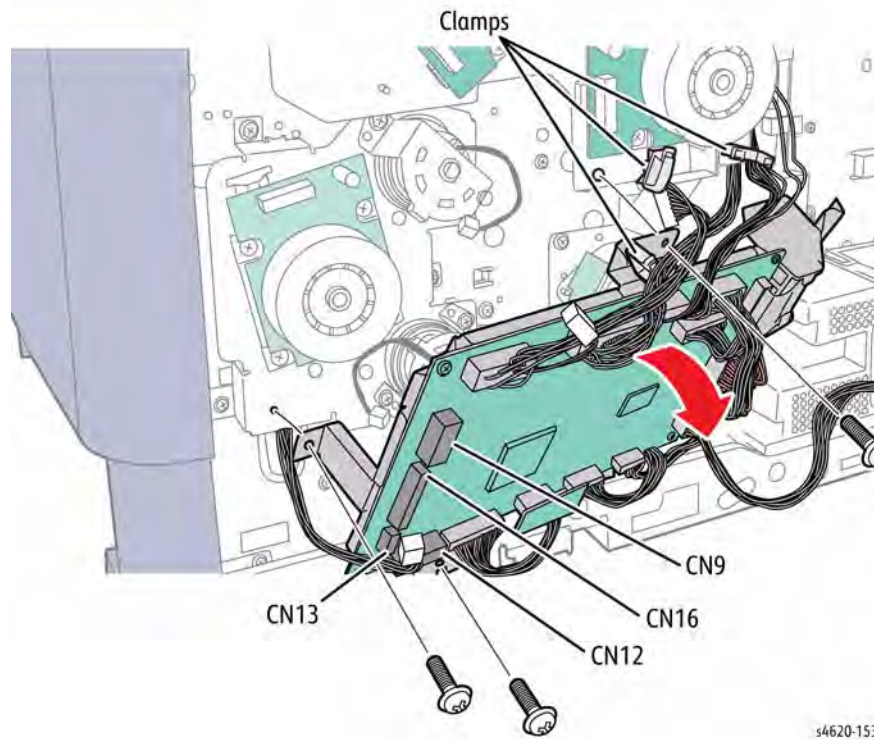

Figure 2 Remove the MCU Board and bracket
10. Remove 3 screws (metal) that secure the MCU Board bracket to the chassis, Figure 2.